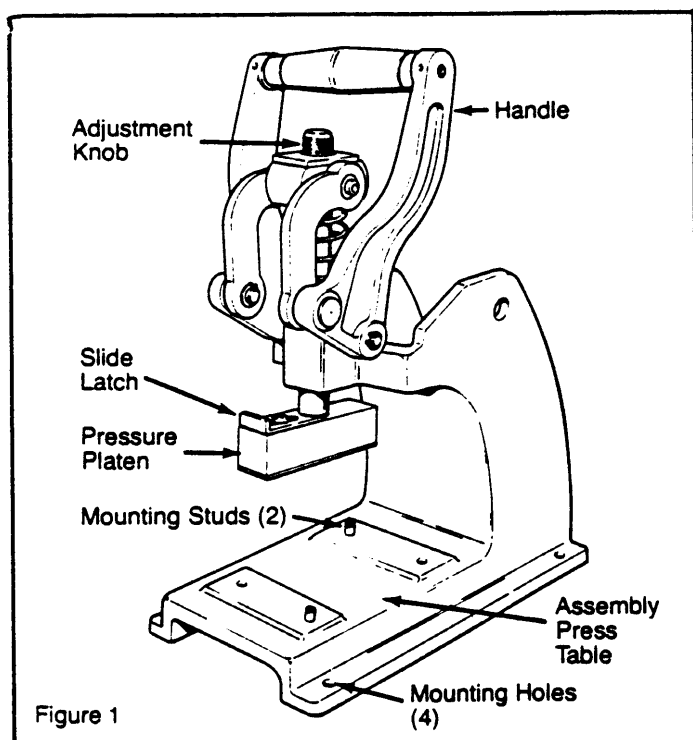

Figure 1
1. Pull back slide latch and remove pressure platen. (see figure 1)